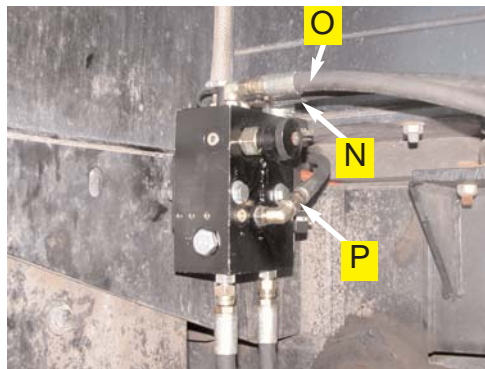

Figure 4a. Installed hoses to the Automated Steering Block.
- a. Install the provided tank hose (O) between the T port of the Automated Steering Block and the branch of the run tee installed in step 3e. (Figure 4a. and 4b.)
- b. Connect the pressure hose (N) to the P port of the Automated Steering Block and the run tee (from step 3a) in the pressure line at the priority divider. (Figure 4a. and 4c.)
- c. Connect the load sense hose (**P**) to the **LS** port of the Automated Steering Block and the Load Sense Shuttle (**G**). (Figure 4a., 4b, and 4c.)